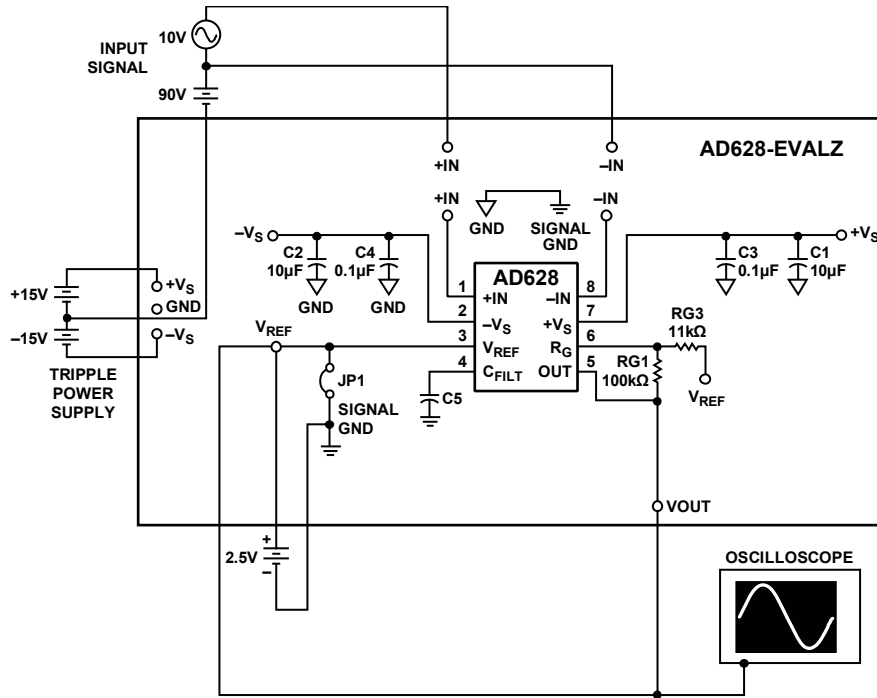

Figure 2. Example Test Setup Using the AD628-EVALZ
Two ground pins are available to the user: GND and SIGNAL GND. Although the grounds are connected, SIGNAL GND should be considered the ground to which the reference and the output are referred. The AD628-EVALZ permits the user to set the reference voltage of the AD628 externally, either with a precision voltage reference or to SIGNAL GND. For the most accurate performance, the reference voltage should be made with respect to SIGNAL GND. For example, if a 2.5 V offset is desired, a 2.5 V precision reference can be used in series with SIGNAL GND (see Figure 2). Alternatively, VREF can be set to SIGNAL GND by soldering the jumper, JP1.
- Inputs: Input of AD628. If a signal generator is used to create an input signal, the signal generator's ground should be connected to the board's GND pin (see Figure 2).